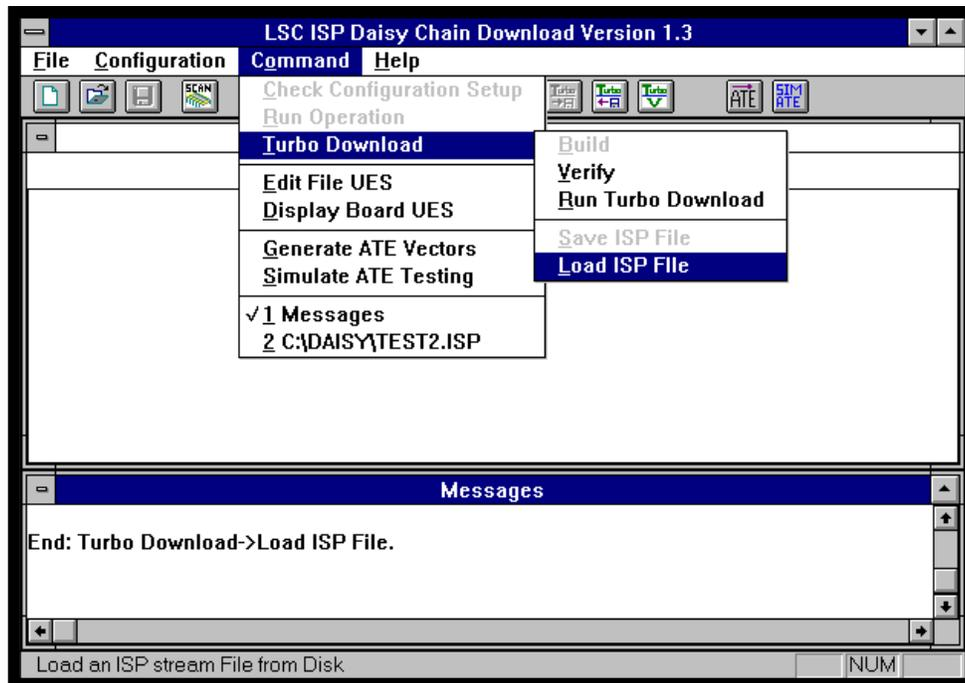
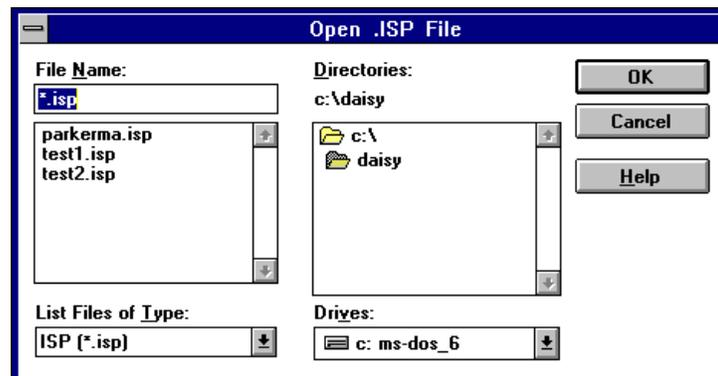

Figure 3-15. **Command** ⇒ **Turbo Download** ⇒ **Load ISP File** Menu Item
Figure 3-16. Open .ISP File Dialog Box
1. Select **Command** ⇒ **Turbo Download** ⇒ **Load ISP File** or the **Turbo Load** icon from the ISP Daisy Chain Download menu (Figure 3-15). The Open .ISP File dialog box appears (Figure 3-16).
3. Type in an .ISP file name in the **Source File** field or click **Browse**. The Open .ISP File dialog box appears (Figure 3-16). Once you select a file, the path appears in the **Source File** field. Type **ate1.isp**